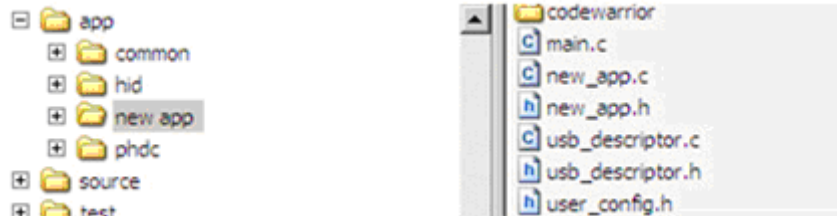

Figure 5-1. New application directory
4. Create a new file for creating the main application function and the callback function as defined above. In Figure 5-1, the `new_app.c` and `new_app.h` are used for the same purpose.